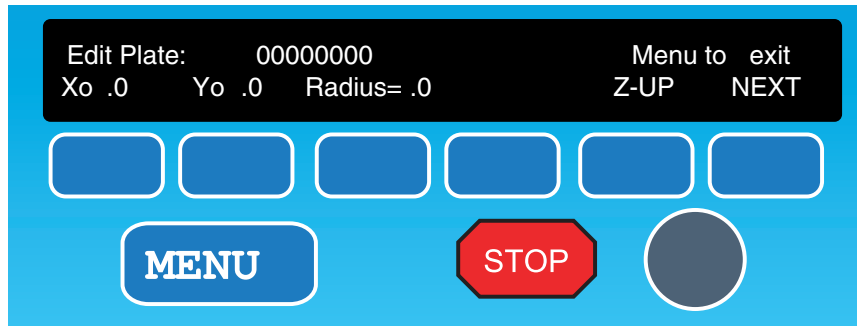

Figure 7-19: The **XY Coordinates** screen for 384-well plates.
- 2) Press the **NEXT** key to open the **XY Coordinates** screen (Figure 7-19). Setting the appropriate XY coordinates prevents the wash probe manifold from being damaged.